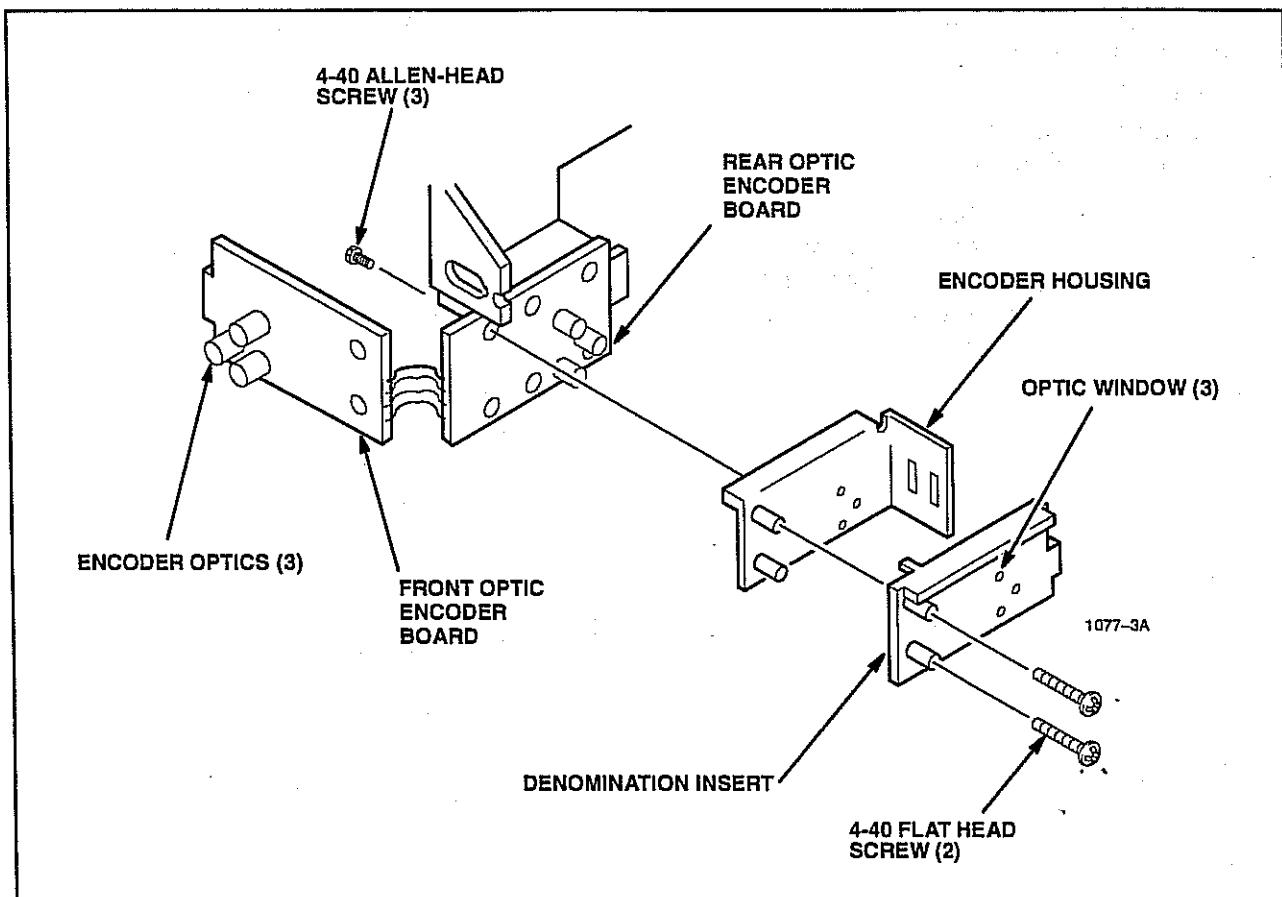

Figure 5-10. Optic Coin Encoder.
1. Refer to Figure 5-10, Optic Coin Encoder.
See Figure 5-10, Optic Coin Encoder.
The components that make up the optic coin encoder include the front and rear optic encoder boards, the denomination insert, and the encoder housing. See Figure 5-10, Optic Coin Encoder and proceed as follows.